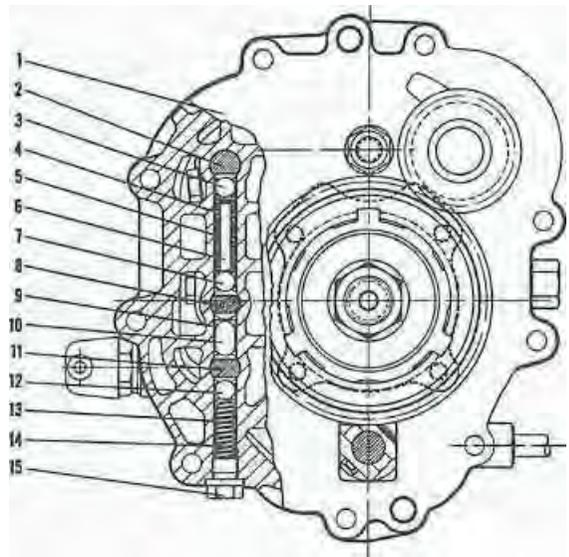

Fig. 41
20. Remove detent ball, spring, and detent (see Fig. 41 for detent component arrangement).
- (See Fig. 41 for proper arrangement of detent components).